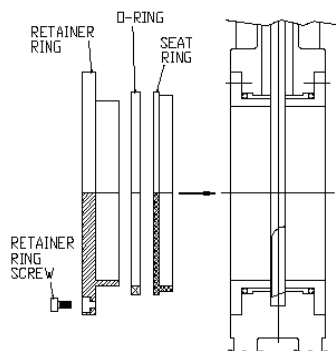

Figure 6
2. Remove the retainer ring bolts and slide the assemblies out from both sides of the valve as shown in Figure 6.